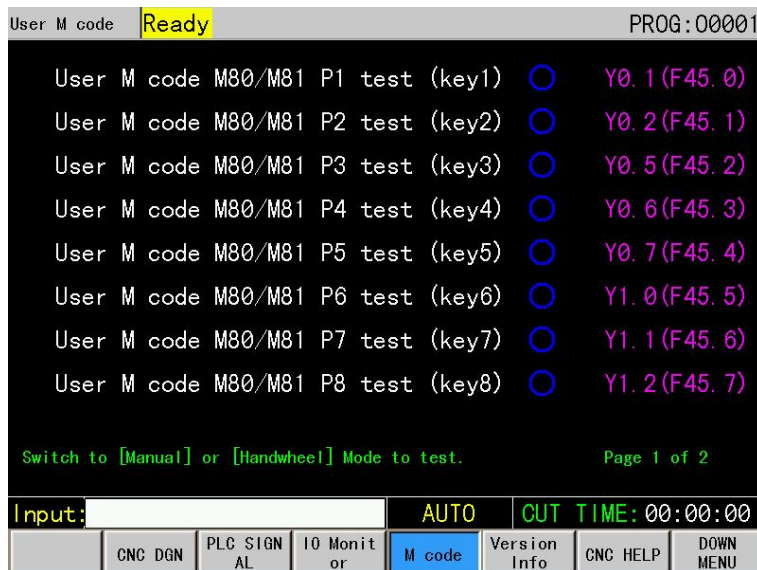

Figure 3-6-4-1
1、Press the 【 User M Code 】 soft key in the<Diagnosis>interface of the CNC diagnostic interface to enter the User M Code interface. See figure 3-6-4-1: